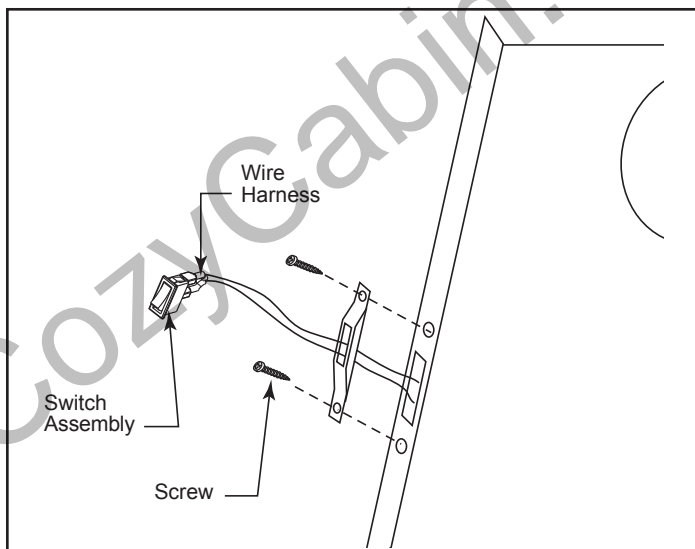

Figure 53 - Attach switch assembly to rear shroud.
1. Apply wiring harness to the ON/OFF switch terminals then insert into cut out on switch housing. The ON/OFF switch will 'snap' into the cutout, Figure 53.